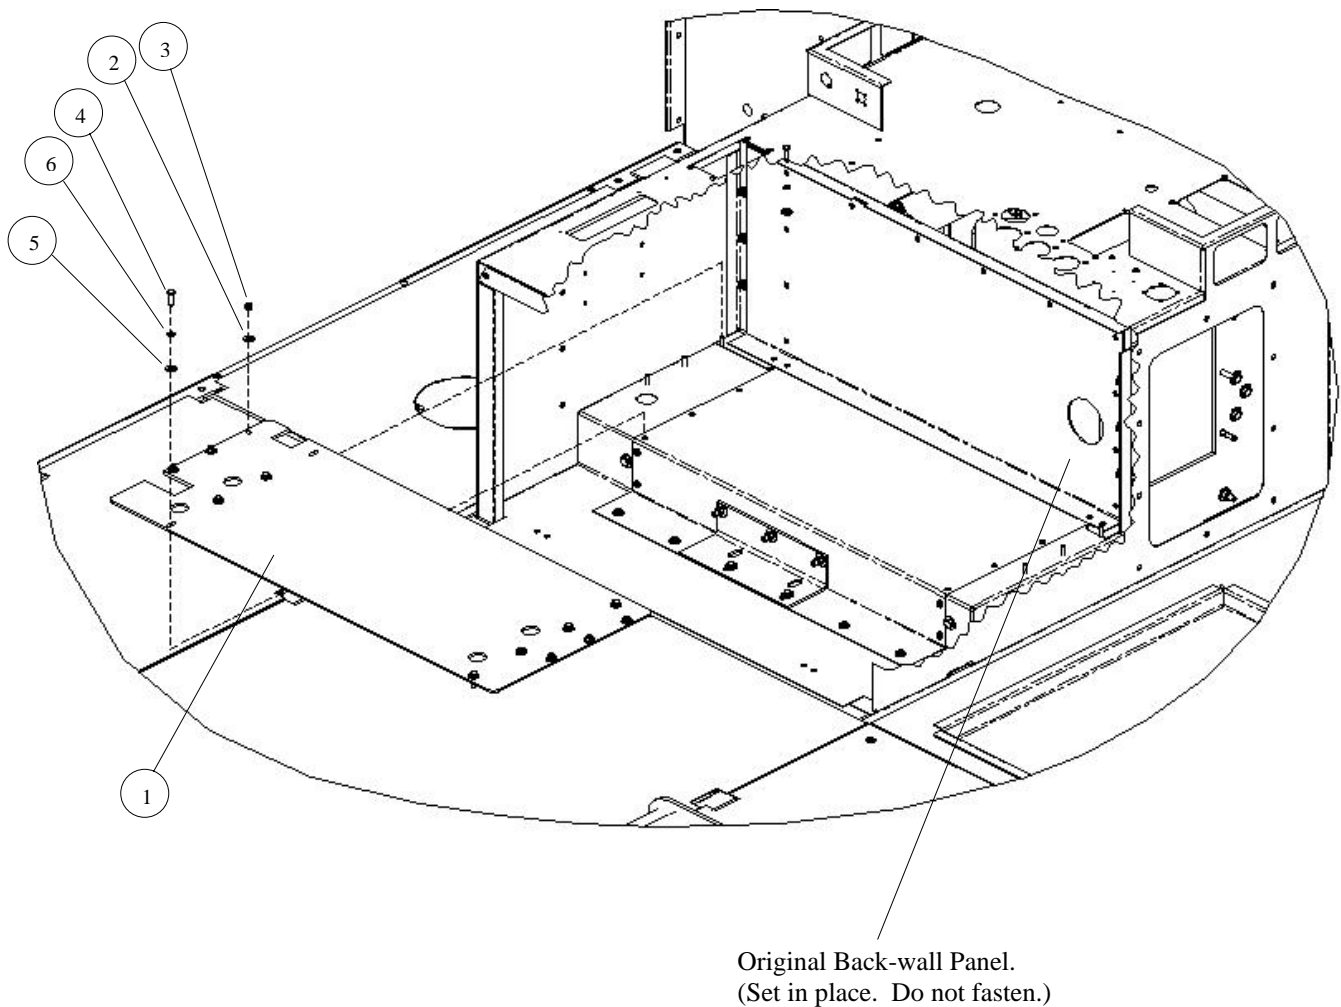

Figure 3-73. Doghouse Bottom Panel Installation.
5. Install doghouse bottom panel as follows (see Figure 3-73):
- b. Install doghouse bottom panel (1) and align the six left and right outer holes to the mounting studs.
- c. Secure the doghouse bottom panel (1) by reinstalling six flat washers (2) and six locknuts (3) removed in Step 1. Torque locknuts to 7 lb-ft.
- d. Install eight bolts, (4), flat washers (5), and lock washers (6). Torque bolts to 7 lb-ft.